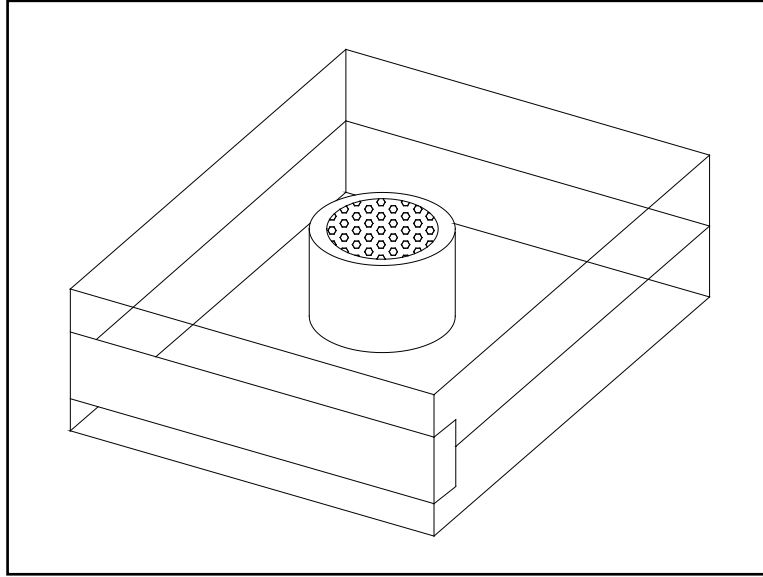

Figure 3: Packaged Oxygen Sensor
5. Open the airtight package (see figure 3) and remove the oxygen sensor from the package. To maintain the oxygen sensor's energy level, remove the red grounding tab and immediately install the sensor in the oxy.IQ.